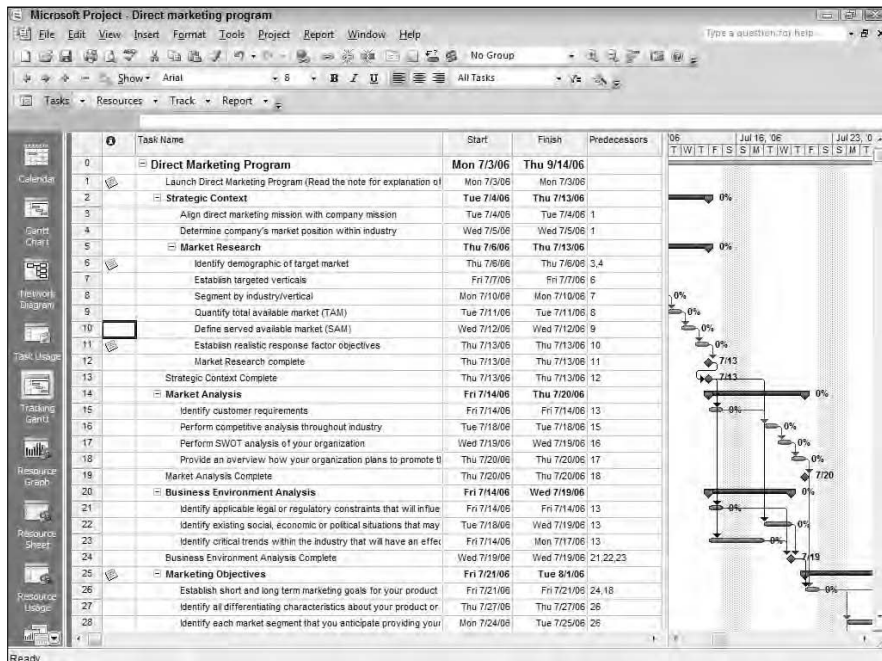

Figure 3-13: Tracking Gantt view makes it easy to track progress.
- ◆ **Tracking Gantt** (see Figure 3-13) is a great place to go to enter actual start and end dates for your tasks and to mark tasks as finished in the columns of the sheet area. You can then view your tracked activity against the baseline by looking at the taskbars in the chart pane.